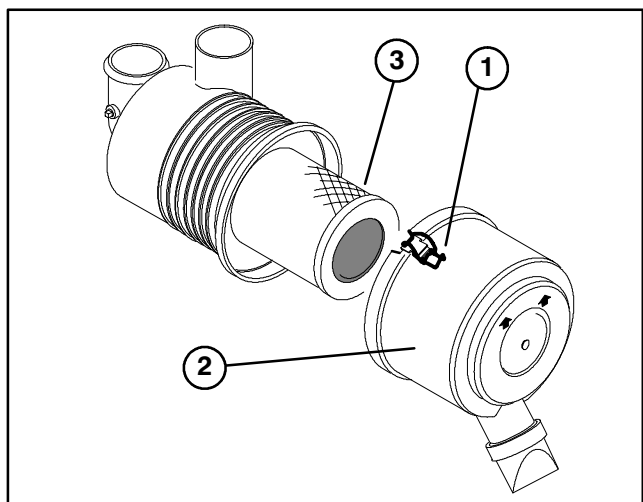

Figure 21
- ## SERVICING REMOTE AIR CLEANER (Fig. 21)